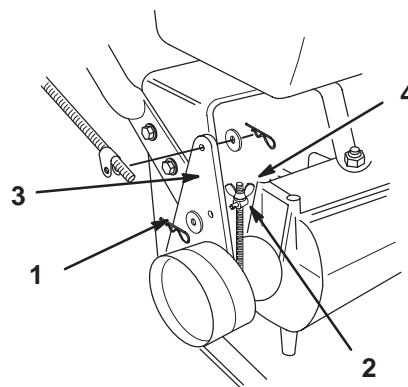

Figure 30
3. To adjust the brake remove the cotter pin and washer from the brake lever (Fig. 30).
4. Rotate the trunnion so it smoothly slides into brake lever (Fig. 30). Tighten wing nut.
5. Secure trunnion to brake lever with washer and cotter pin (Fig. 30).